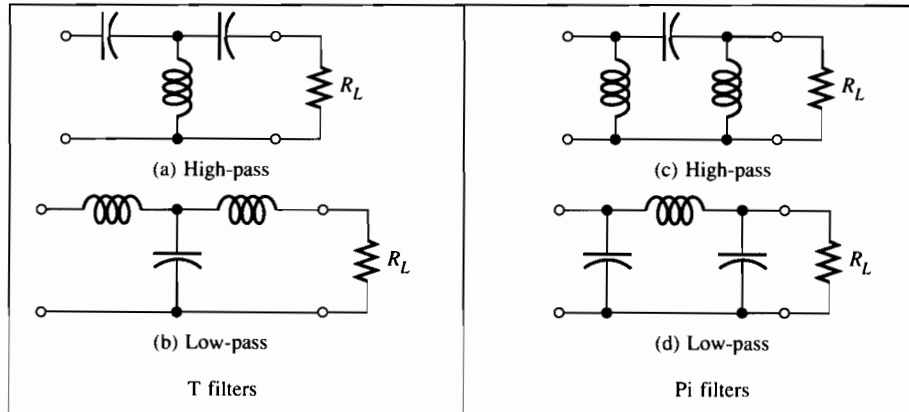

Figure 29–2
Improved filter characteristics can be obtained by combining several filter sections. Unfortunately, you cannot simply stack identical sections together to improve the response as there are loading effects that must be taken into account. Two common improved filters are the *T* and the *pi* filters, so named because of the placement of the components in the circuit. Example of *T* and *pi* filters are shown in Figure 29–2. Notice that the low-pass filters have an inductor in series with the load and a capacitor in parallel with the load. The high-pass filter is the opposite.
2. Construct the *pi* filter circuit illustrated in Figure 29–3. Set the signal generator for a 500 Hz sine wave at 3.0 V_{rms}. The voltage should be measured at the generator with the circuit connected. Set the voltage with a voltmeter and check both voltage and frequency with the oscilloscope.